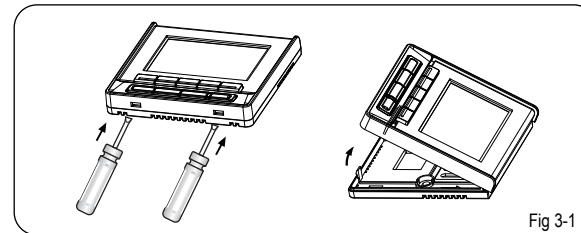

Fig 3-1
1. Take off the screws in the bottom cover of centralized controller by slotted head screw driver. (See Fig 3-1)